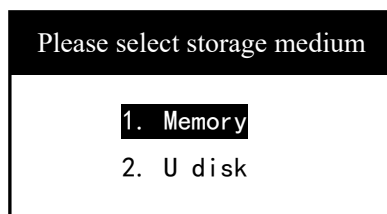

Figure 8 Storage medium selection interface
- **Save** : Store the current waveform and analysis of the data, and you will be prompted whether to store in memory or U disk (Figure 8). The data stored in the memory can be viewed, analyzed in data management interface, and then transferred to U disk. Data in U disk can be viewed and analyzed on the upper PC machine again.